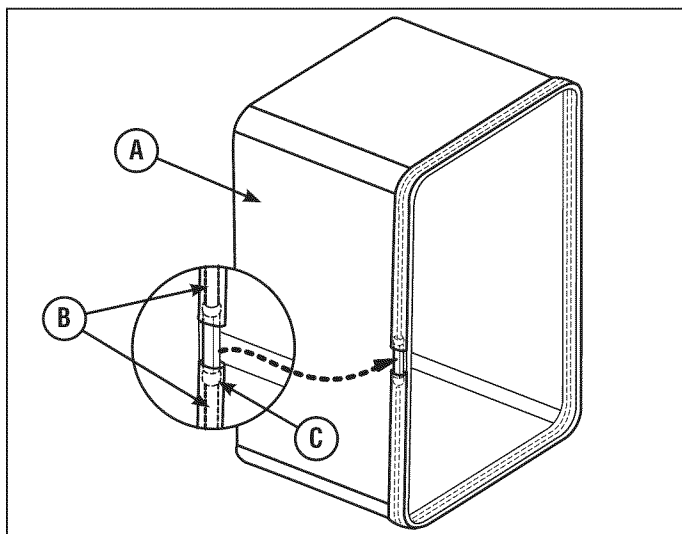

Figure 2
2. Stand grass bag assembly (A, Figure 2) on end.
3. Secure rod ends (B) with connector (C).